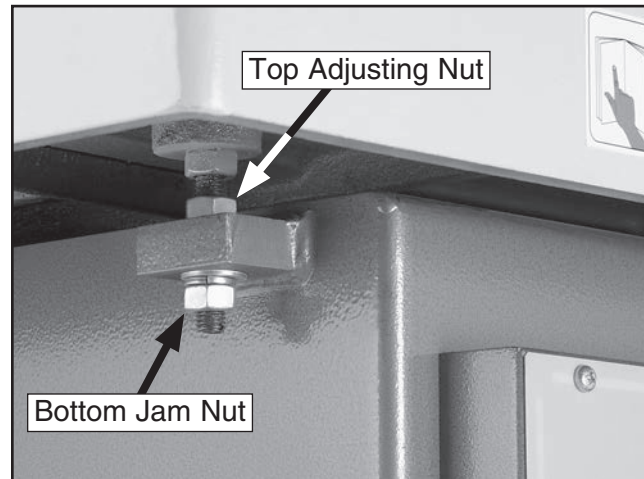

Figure 55. Table adjusting bolt and jam nuts.
- a. Loosening the bottom jam nut of the table adjusting bolt (see **Figure 55**).